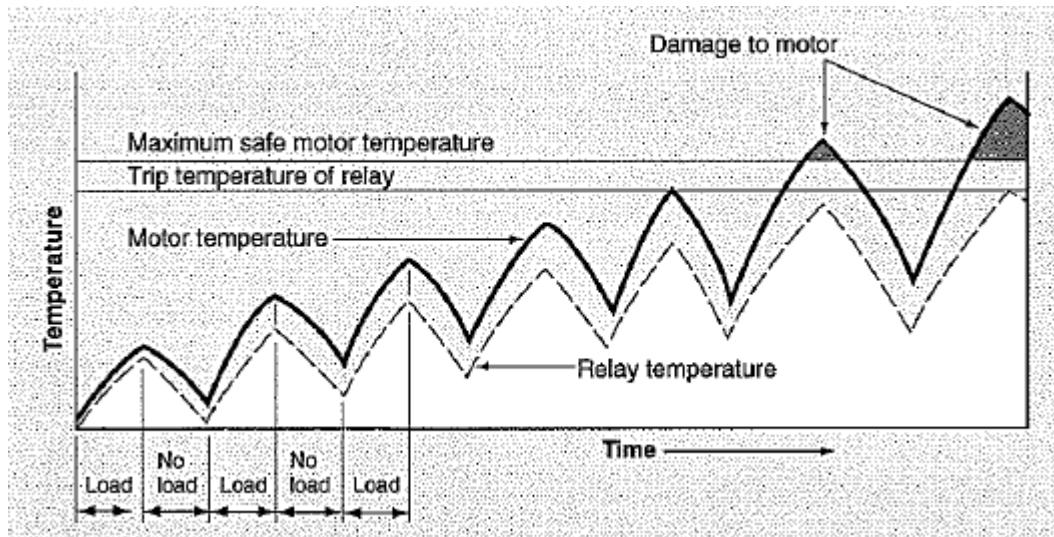

Figure 6.12: Temperatures from Intermittent Load
- 6-61 If a motor starts and stops often, however, it may not be completely protected by the bimetallic relay. The graph in Figure 6.12, on the following page, shows why. As the motor is loaded, the relay temperature parallels the motor temperature closely. However, when the motor is off, the relay cools faster than the motor because it has less mass. After operating through several cycles, the temperature of the relay may be much lower than that of the motor. Thus, the motor may become too hot, but the overload relay will not have reached its trip point.